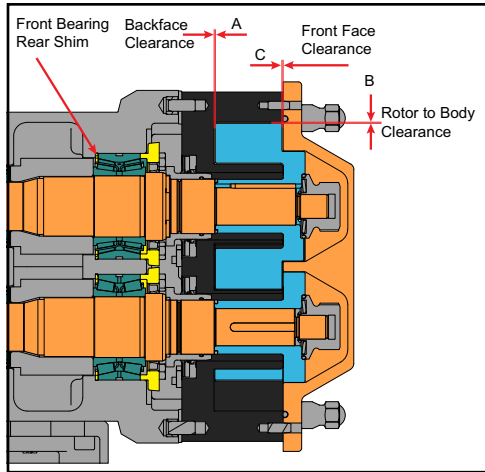

Figure 66 - Clearance Measurements
2. With feeler gauges, measure the rotor backface clearance (Figure 66, item A), through the port or from the front.
3. Measure the rotor front face clearance (Figure 66, item C).
4. Measure the rotor to body clearance (Figure 66, item B).